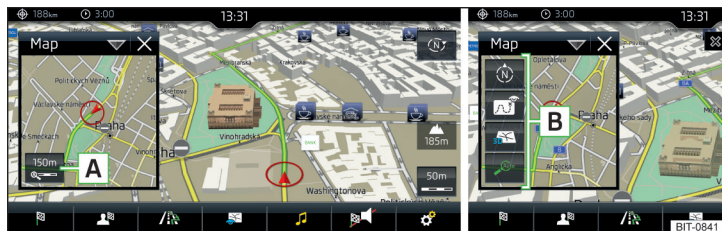

Fig. 232 Map in split screen
► In the split screen, tap on function surface **A** » Fig. 232.